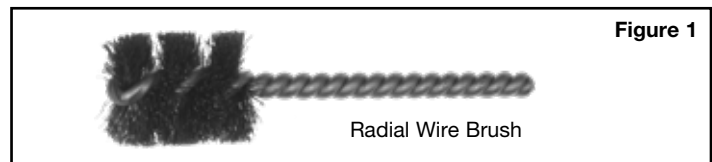

Figure 1
- Carefully inspect snap ring grooves, feed holes or bore edges and de-burr if necessary to reduce cutting. A non-abrasive tool such as a radial wire brush (**Figure 1**) works best, but the bore always should be thoroughly cleaned after any de-burring.